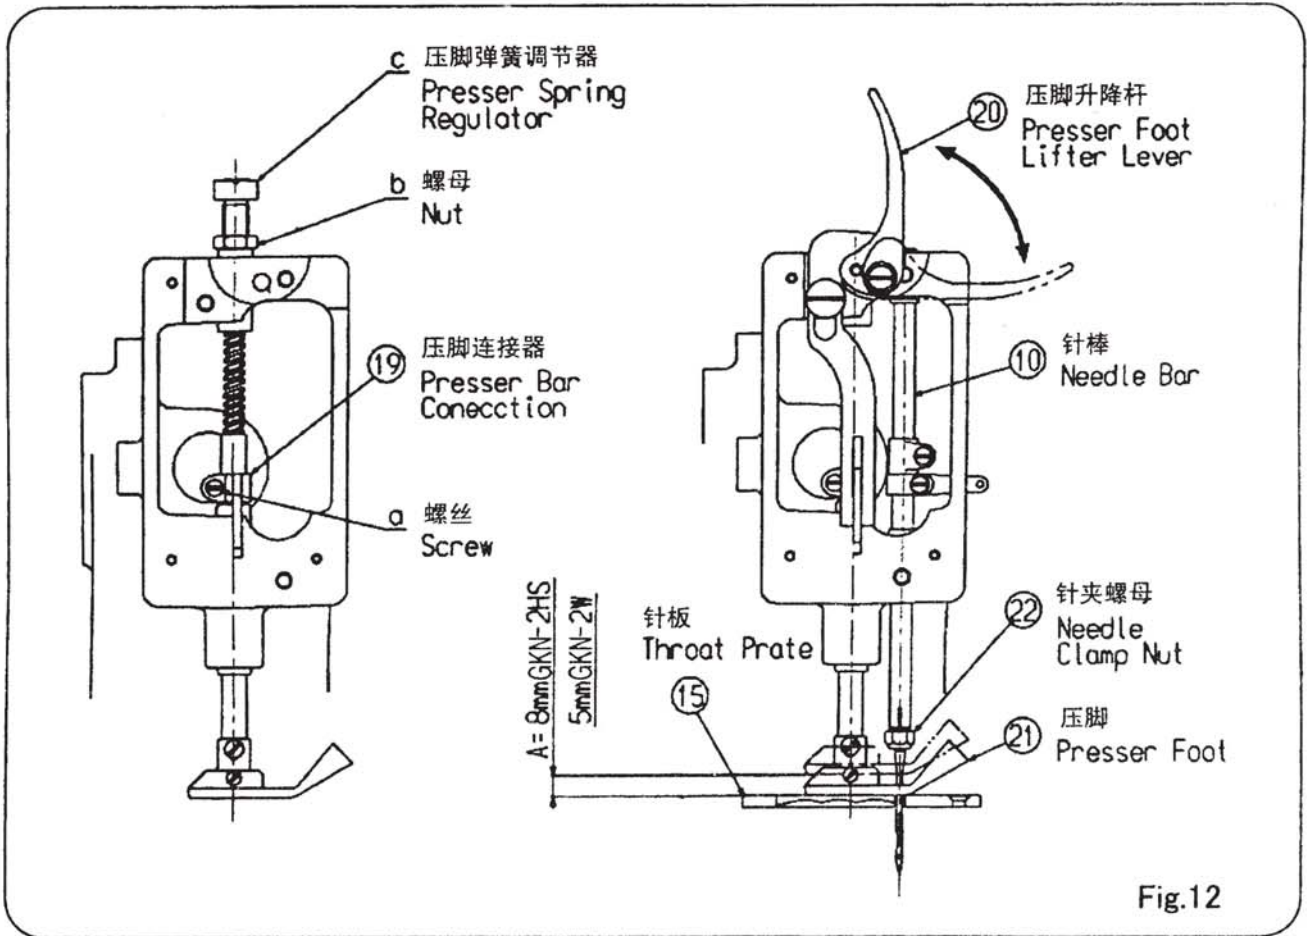

Fig.12
Clearance between Presser Foot Ass'y ⑳ and Throat Plate ⑮, (A) of Fig.12, is 8mm(GKN-2HS) or 5mm(GKN-2W), when Presser Foot Ass'y ⑳ is raised by means of Presser Foot Lifter Lever ㉑. To adjust, loosen set screw (a) and adjust Presser Bar Connection ⑲.
Pressure of Presser Foot Ass'y ⑳ is so adjusted that your materials are fed at a constant and uniform speed. To adjust, loosen nut, (b) of Fig.12 and turn Presser Bar spring adjust screw (c) clockwise to increase pressure; and counterclockwise to decrease it. Too large pressure will cause thread break, etc, and too small pressure, failure of threads chaining at ends of materials or nonuniform seam length.